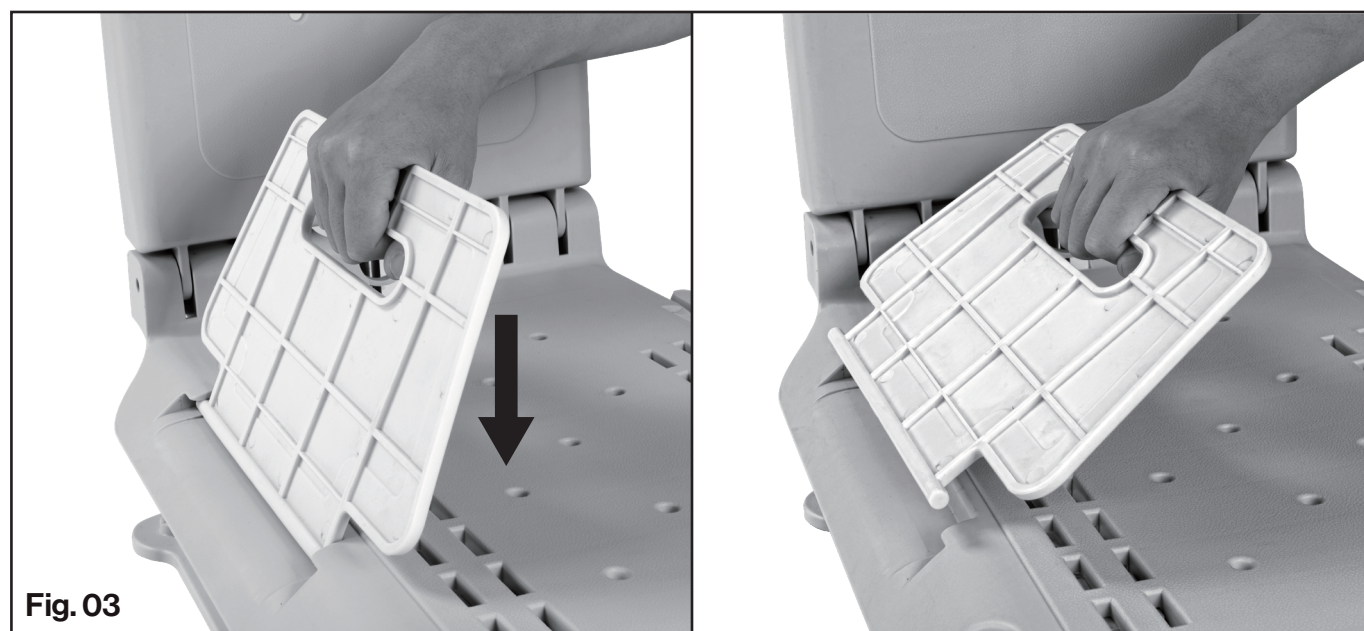

Fig. 03
**NOTE:** Side wing can help you move your body onto the seat more easily.(See Fig.03)